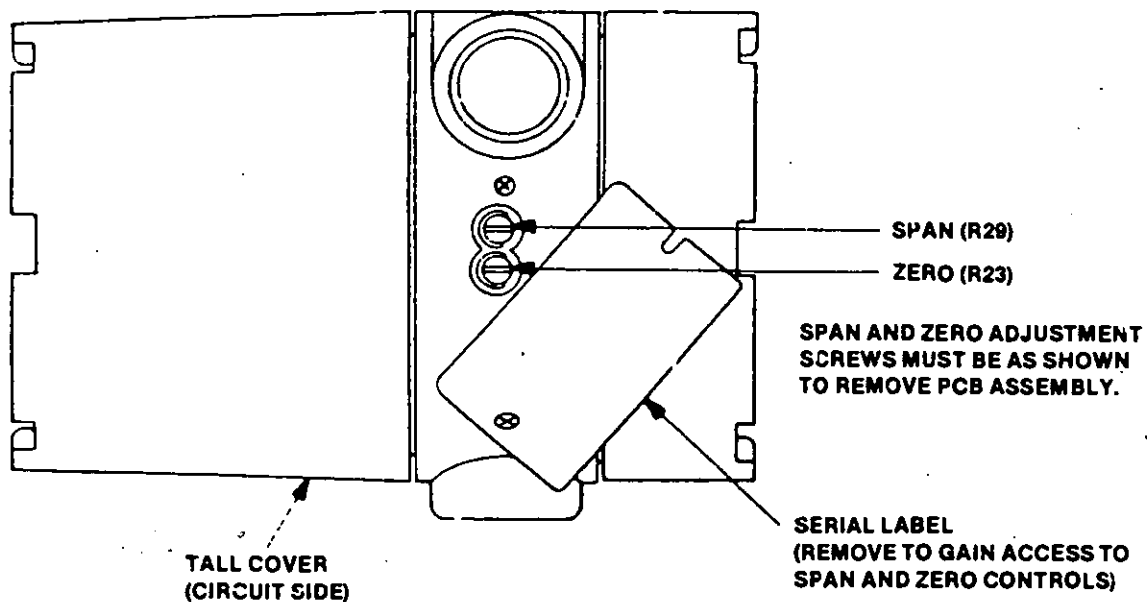

FIGURE 3-1. Controls and Switches Location Diagram
3.1 START-UP. The following start-up procedure shall be performed after the transmitter has been installed as described in Section 2.0. The sensor must be wired, however, it may be practical to install the sensor after calibration is complete (refer to Paragraph 3.2). See Figure 3-1 for location of controls and switches.
2. Set the RANGE MULTIPLIER and RANGE FACTOR switches. Find the sensor probe constant in the left hand column of Table 3-1 and follow this row to the desired full scale conductivity column. On top of this column are the desired RANGE FACTOR SWITCH and RANGE MULTIPLIER SWITCH settings. Set the Model 1181C Transmitter switches to these settings (see Figure 3-1).
3. Set the SLOPE ADJUST (R124) to 2% (see Figure 3-1). Set the Temperature and the Conductivity Decade Resistance Boxes according to the appropriate equation listed below: